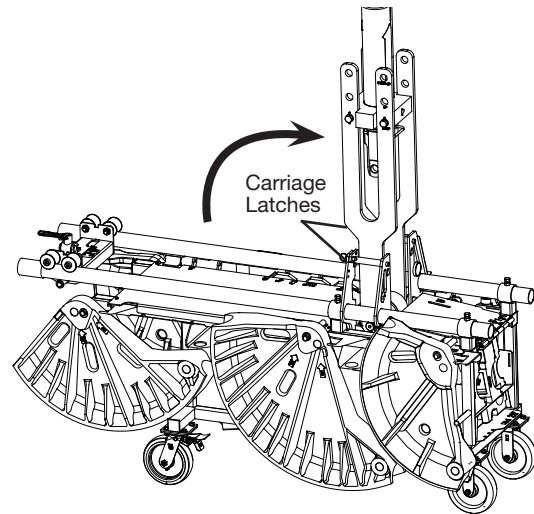

Figure 4
9. Carefully swing the connecting forks and ram into the vertical bending position and lock the forks in place by revolving and pinning the carriage latches in place. (Fig. 4)